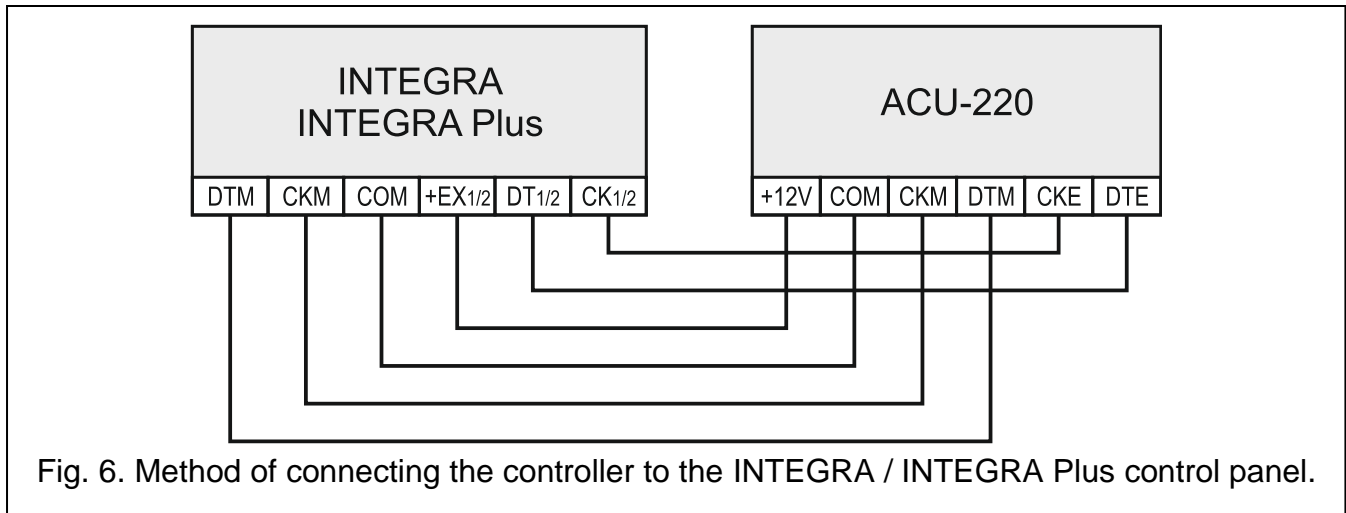

Fig. 6. Method of connecting the controller to the INTEGRA / INTEGRA Plus control panel.
**INTEGRA / INTEGRA Plus:** connect the CKM, DTM, CKE, DTE and COM terminals to the corresponding terminals of the control panel communication buses (Fig. 6).